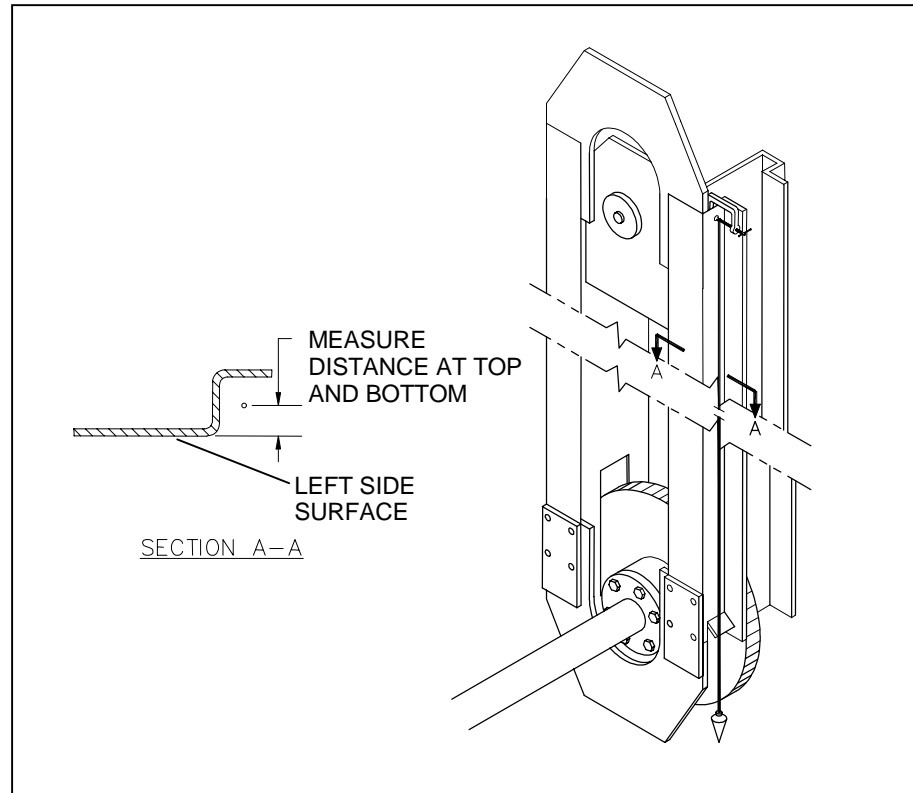

Figure 20. SIDE-TO-SIDE LEVELING
6. Check the side-to-side alignment of the carousel at the right chain track. Measure the distance between the plumb bob string and the left side surface of the chain track at the top and bottom of the track (see Figure 20).